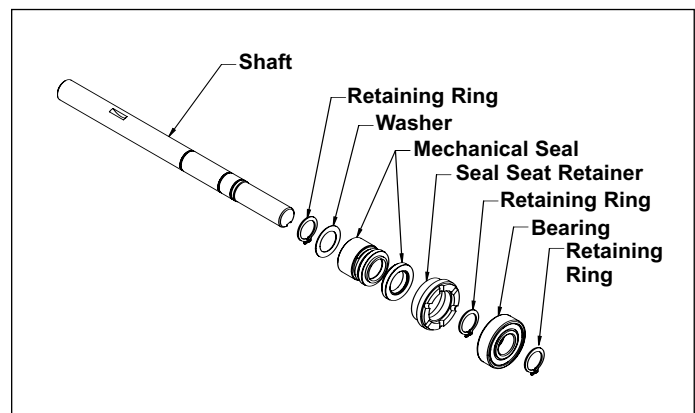

Figure 7 - Shaft, Seal and Bearing Assembly (detail view)
- Refer to assembling components on drive shaft (See Figure 7). When installing the seal on the shaft, wet with water and be cautious when sliding it into position. The spring retaining washer and spring are behind the seal with the carbon ceramic facing towards the keyed end of drive shaft (See Figure 7).